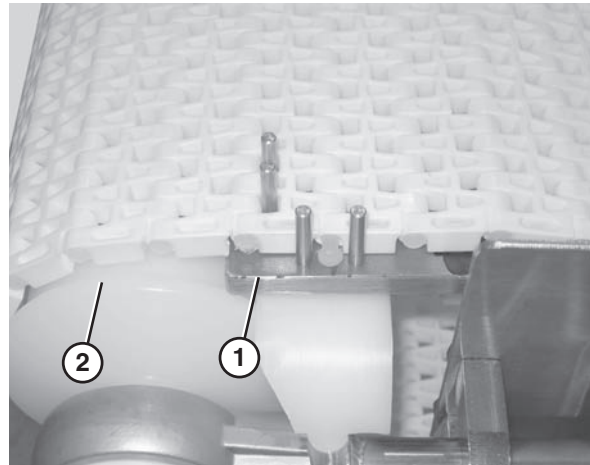

Figure 49
1. Secure the retaining head side of the belt. Use the belt removal tool (**Figure 49, item 1**) for 1" pitch belts. For all other belts, position the section of belt so that it is braced by the flanged puck (**Figure 49, item 2**).